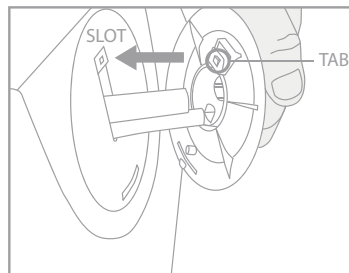
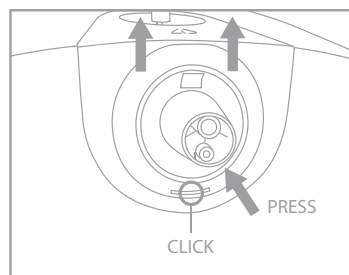

Fig 7
Fig 8
- Slide the thinner tube into the rear hole of the outlet nozzle (fig 7), ensure the tube does not protrude.
- Slide the larger outlet silicone tube into the larger hole in the outlet nozzle. Locate the tab on the back of the outlet nozzle into the slot in the surround (fig 7) and slide nozzle upwards to engage. Press nozzle firmly into surround to lock in position (fig 8). A click indicates success.